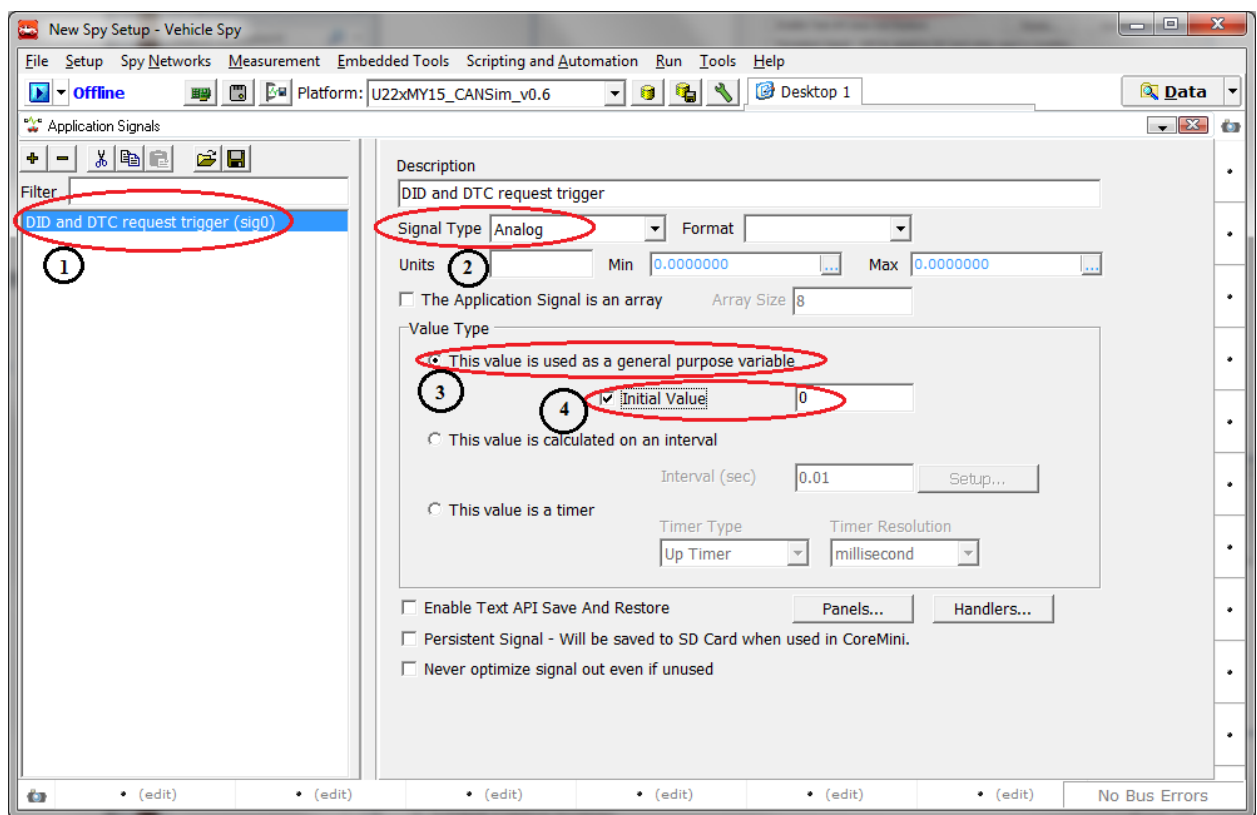

Figure 11: Application signal for the trigger.
- Click on '+' button (Figure 11(1)). It will create new application signal.